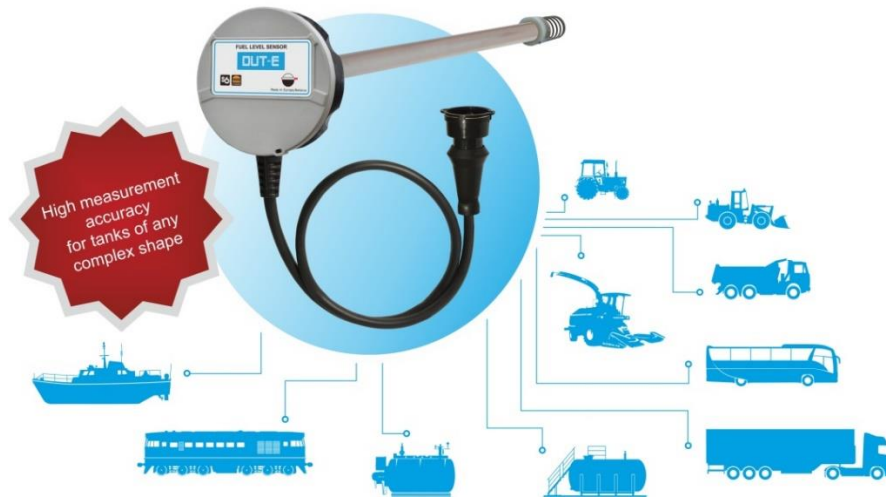

Figure 2 –DUT-E CAN purpose of application
**DUT-E CAN** is designed for high-accuracy measurement of liquid fuel level and volume in tanks of automotive, railroad vehicles, watercrafts and stationary objects (see figure 2).